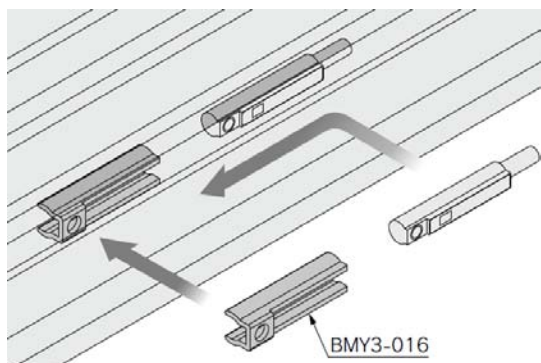

Fig. 12
1. Hold the switch spacer with fingers, and push it into the groove as shown in Fig. 12.